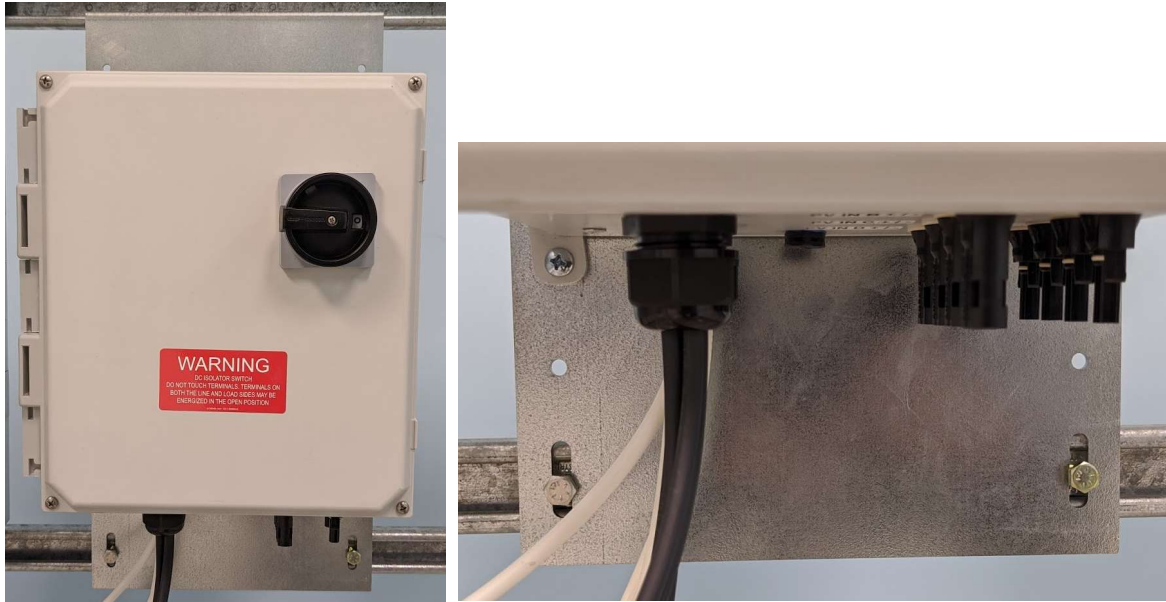

FIGURE 7: AID MOUNTED ON STRUT CHANNELS
2. Lift the AID so that the mounting plate lines up with and hooks into the Unistrut (see Figure 7).
3. Once AID is secured in place you must fasten the other end of the mounting bracket to the Strut Channel using 5/16" Hex Head Screws (see Figure 7).